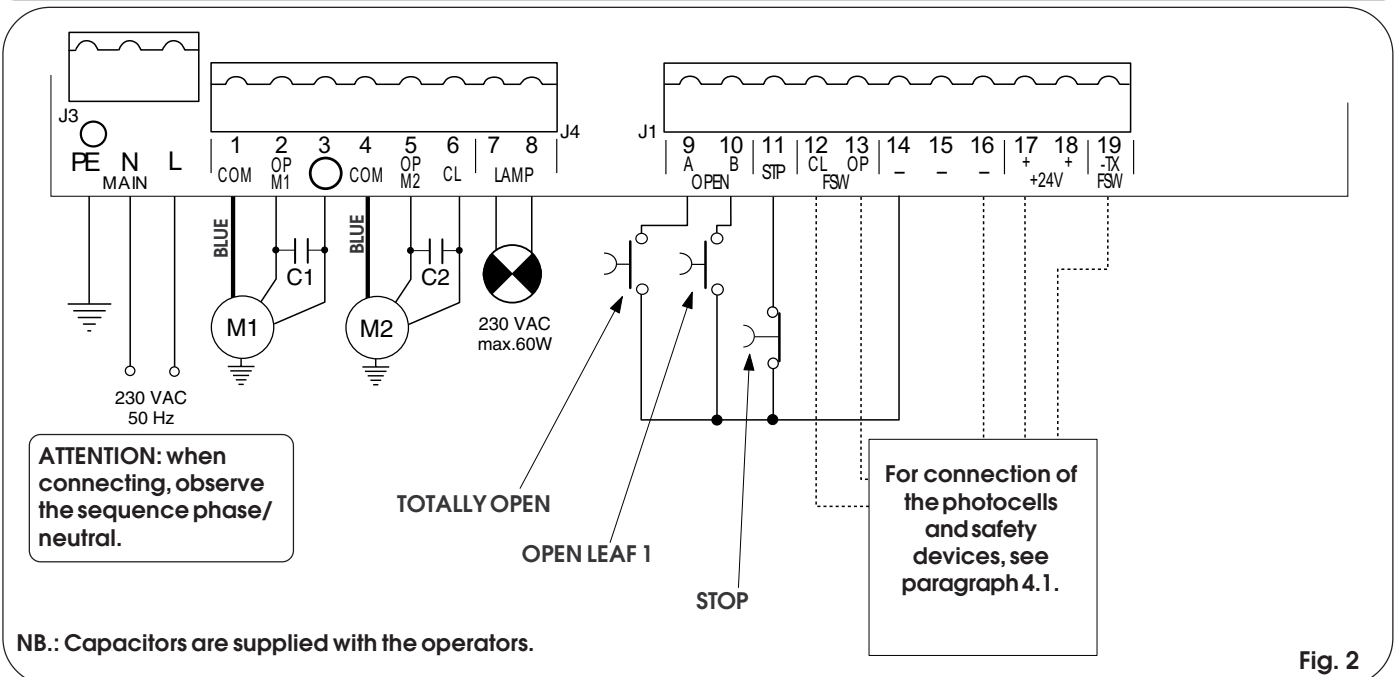

Fig. 2
- Connect the earth cable to the appropriate terminal on the J3 connector of the equipment (see fig.2).
**4.2. Terminal board J3 - Power supply (fig. 2)**
**4.3. Terminal board J4 - Motors and flashing lamp (fig. 2)**
**4.4. Terminal board J1 - Accessories (fig. 2)**